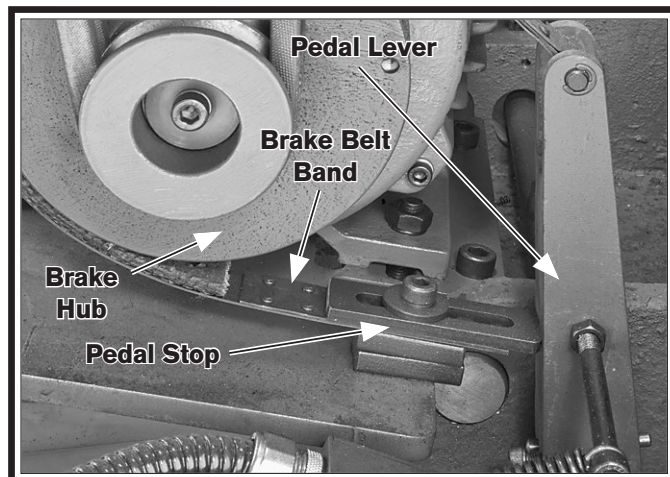

Figure 135. Brake adjustment components.
5. Remove the pedal stop shown in **Figure 135**.